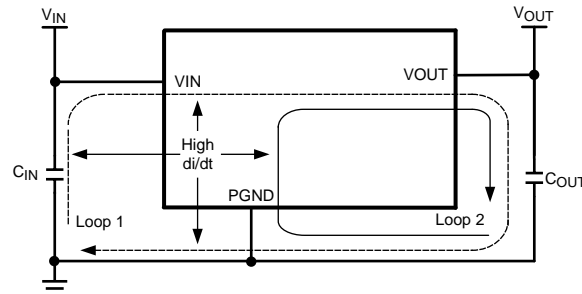

Figure 52. High Current Loops
From an EMI reduction standpoint, it is imperative to minimize the high di/dt paths during PC board layout as shown in Figure 52. The high current loops that do not overlap have high di/dt content that will cause observable high frequency noise on the output pin if the input capacitor (C_{IN}) is placed at a distance away from the LMZ13610. Therefore place C_{IN} as close as possible to the LMZ13610 VIN and PGND exposed pad. This will minimize the high di/dt area and reduce radiated EMI. Additionally, grounding for both the input and output capacitor should consist of a localized top side plane that connects to the PGND exposed pad (EP).